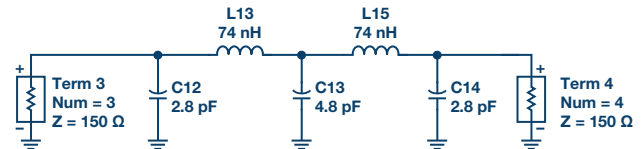

Figure 16. Single-ended, low-pass filter.
1. Start with a single-ended, low-pass filter design (see Figure 16).